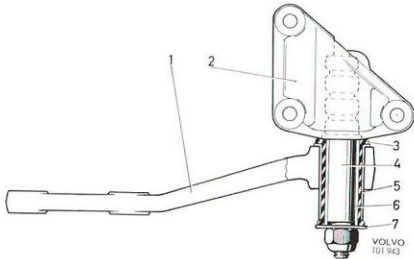
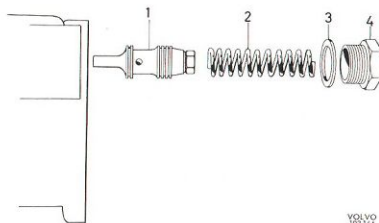

Fig. 6-67. Relay arm journaling
Fig. 6-70. Removing control valve
3. Remove the three attaching bolts for the bracket (2, Fig. 6-67) and lift out the unit.
3. Remove the nut and washer (7, Fig. 6-67) and take down the relay arm (1).
- b) Remove the pump control valve, see Fig. 6-70. Observe the utmost cleanliness. Wash and blow clean before screwing out the plug (4, Fig. 6-67), which should be done from underneath. Check the valve piston and drill-